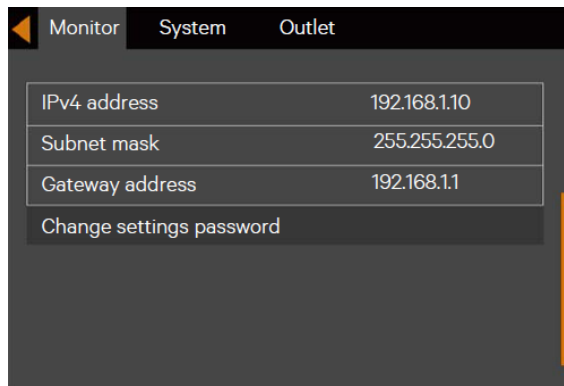

Figure 5-19 Changing setting password
2. Press the key, then press the key to select the 'Change settings password', see Figure 5-19.